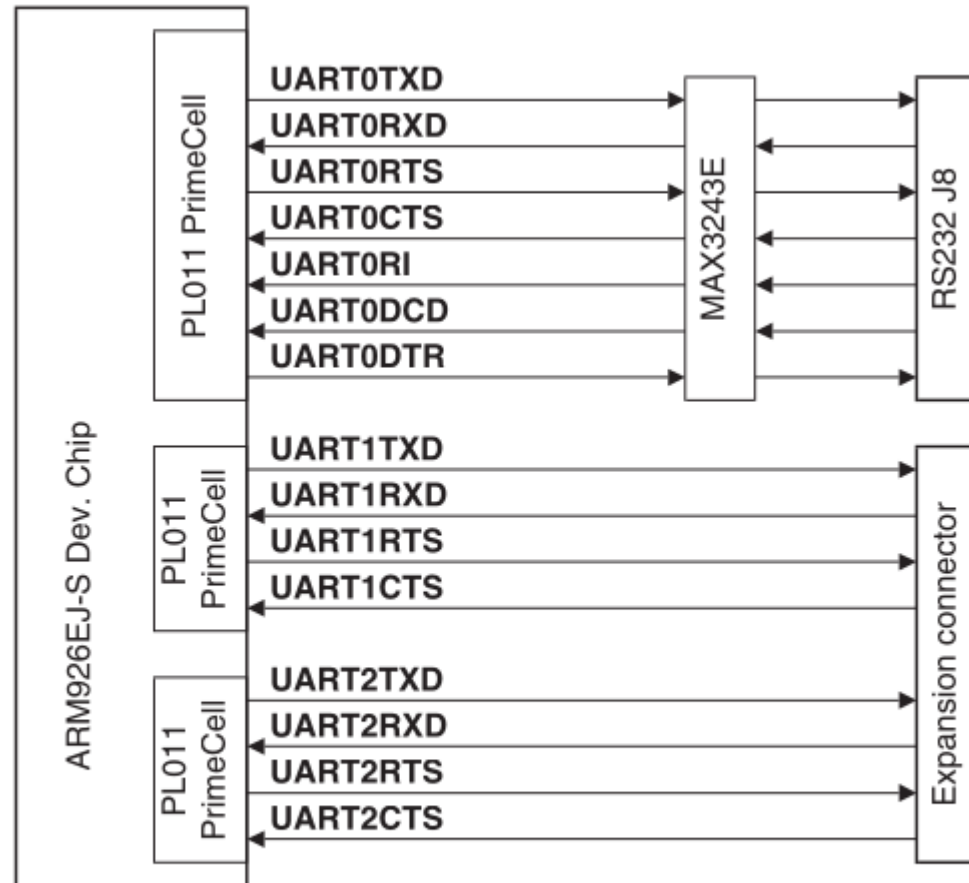

Figure 3-31 UARTs block diagram
- In the Figure 3-31, UARTS are PL011 PrimeCell